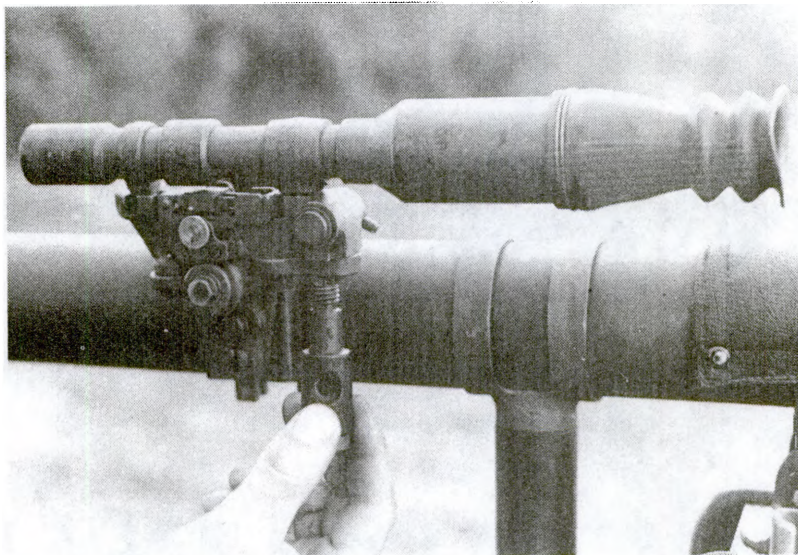

Figure 2
b. Turn the azimuth eccentric until the vertical line of the boresighting cross on the reticle pattern alines with the distant aiming point (fig. 2).